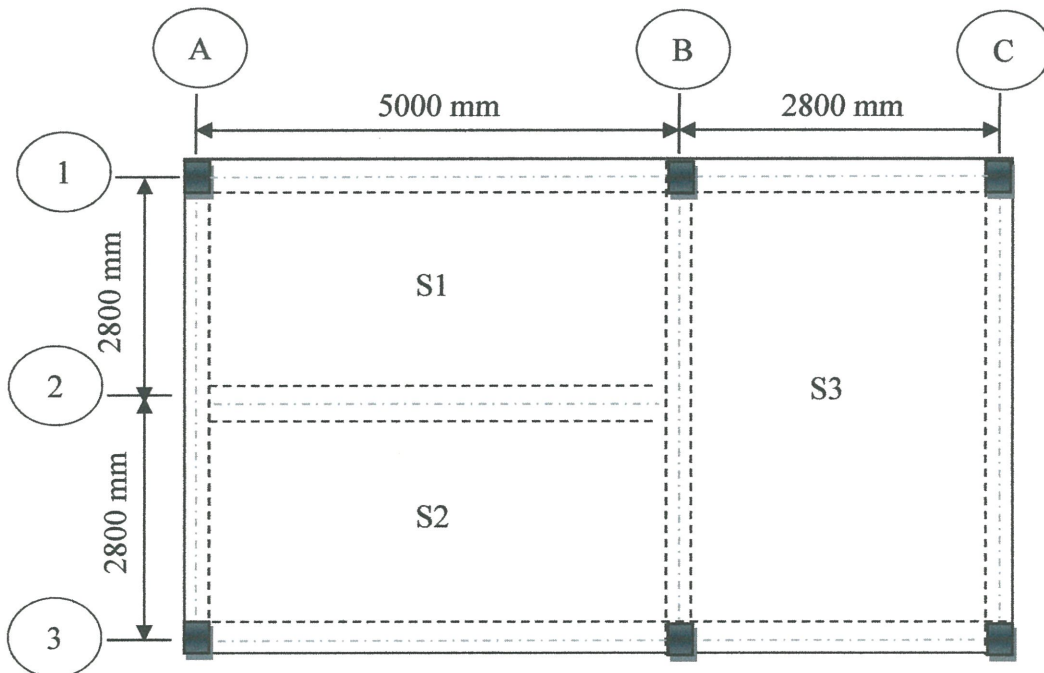

FIGURE Q2
- Q2** Figure Q2 shows the plan view of slab-beam system in one building. Due to construction works, beam and a part of the slab has to act as a pre-cast concrete slab. Given;